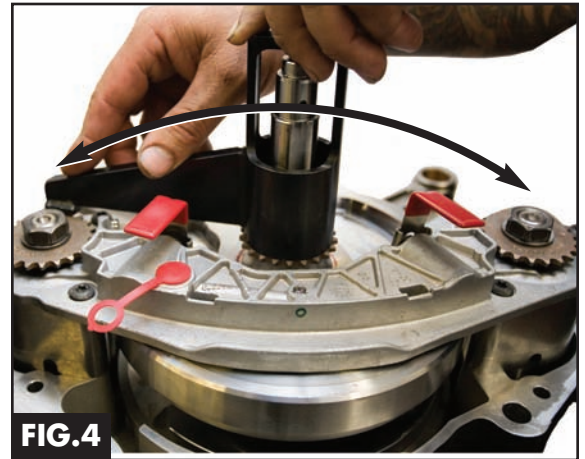

FIG.4
See Fig 4.
2. Gently rotate the tool from sprocket face to sprocket face. **See Fig 4.**